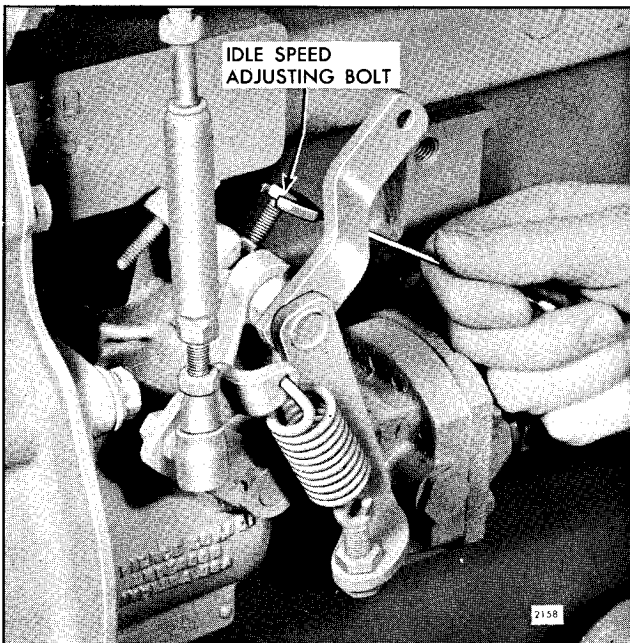

Fig. 7 - Adjusting Engine Idle Speed
2. Start the engine and adjust idle speed adjusting bolt, as shown in Fig. 7, to obtain the desired idle speed.